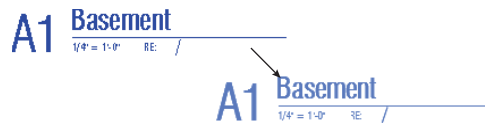

FIGURE 12.19 Moving the view tag
4. Let's move the view tag to a better position. Click off the tag, anywhere on the sheet, to deselect the tag. You can also press the Esc key twice or select the Modify arrow at the upper left. Then, select the tag itself. It highlights blue again but without the grips on the line. Hold the left mouse button, and drag the tag to any location on the sheet (Figure 12.19).